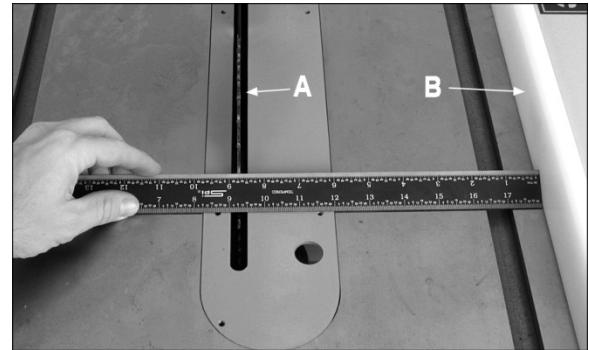

Figure 32
The *rip fence* (A, Figure 32) should be set for the width of the cut by using the scale on the front rail, or by measuring the distance between blade (A)